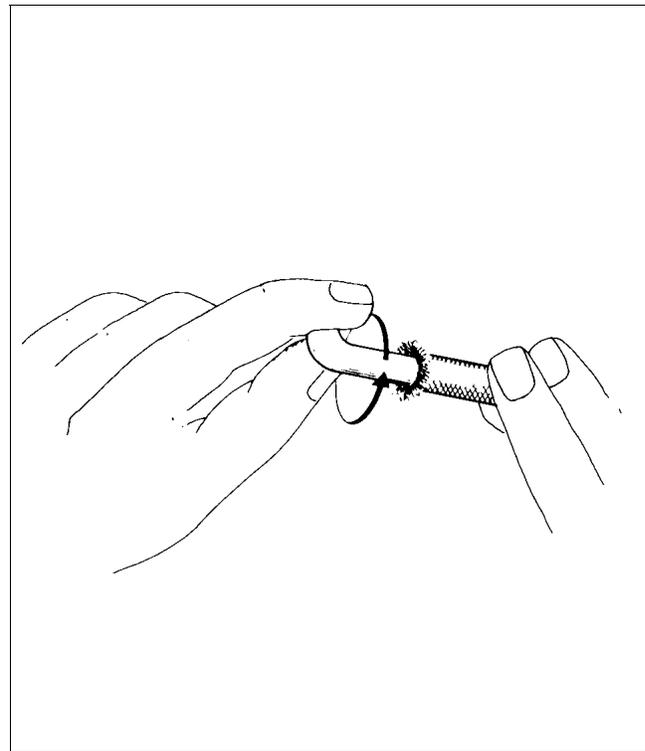

Figure 74-21. Flaring out the Shielding
8. After installation of nut and ferrule, bend and rotate silicone insulation as per Figure 74-21 to flare out shielding so drive ferrule can be inserted. Do not cut silicone insulation with sharp braiding while wire is being rotated.